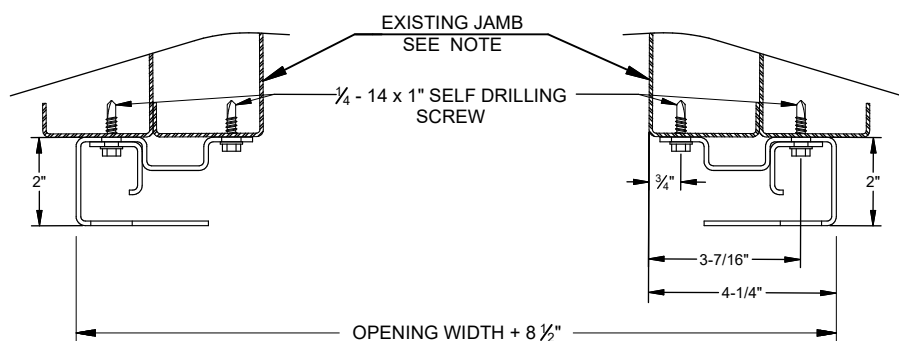

FIGURE 9:
- **STEEL JAMBS** $\frac{1}{4}$ -14 x 1" Tek screws at toe of guide. All 1850 & 850 applications. SEE PAGE 9, FIGURE 9.